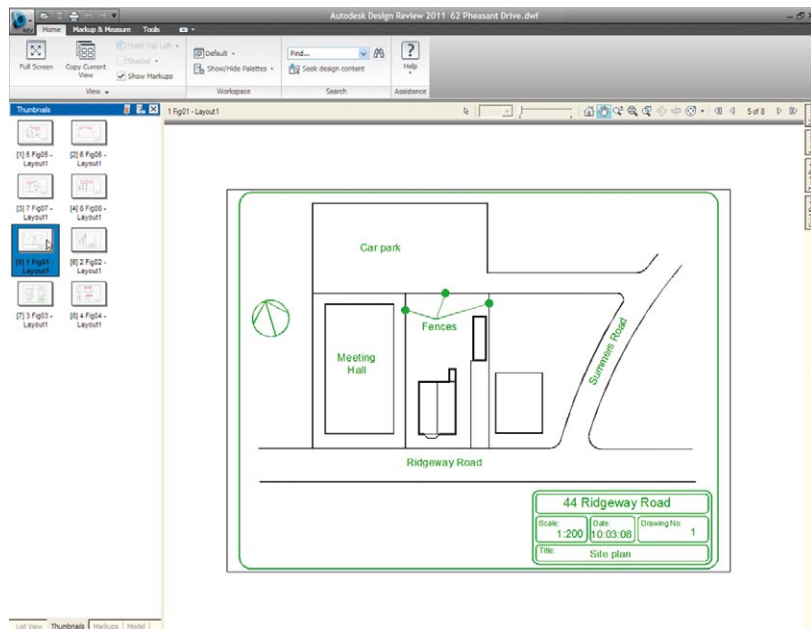

Fig. 11.14 The **Autodesk Design Review** showing details of the **62 Pheasant Drive.dwf** file
2. The **Autodesk Design Review** window appears showing the **62 Pheasant Drive.dwf** file (Fig. 11.14). Click on the arrow **Next Page (Page on)** to see other drawings in the DWF file.